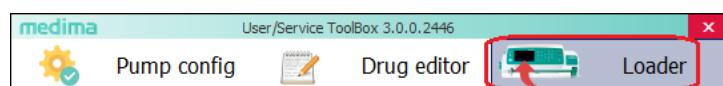

Fig. 8 User/Service Toolbox Launcher menu window
3. Run Medima Toolbox and click Loader in Launcher menu (see Fig. 8).